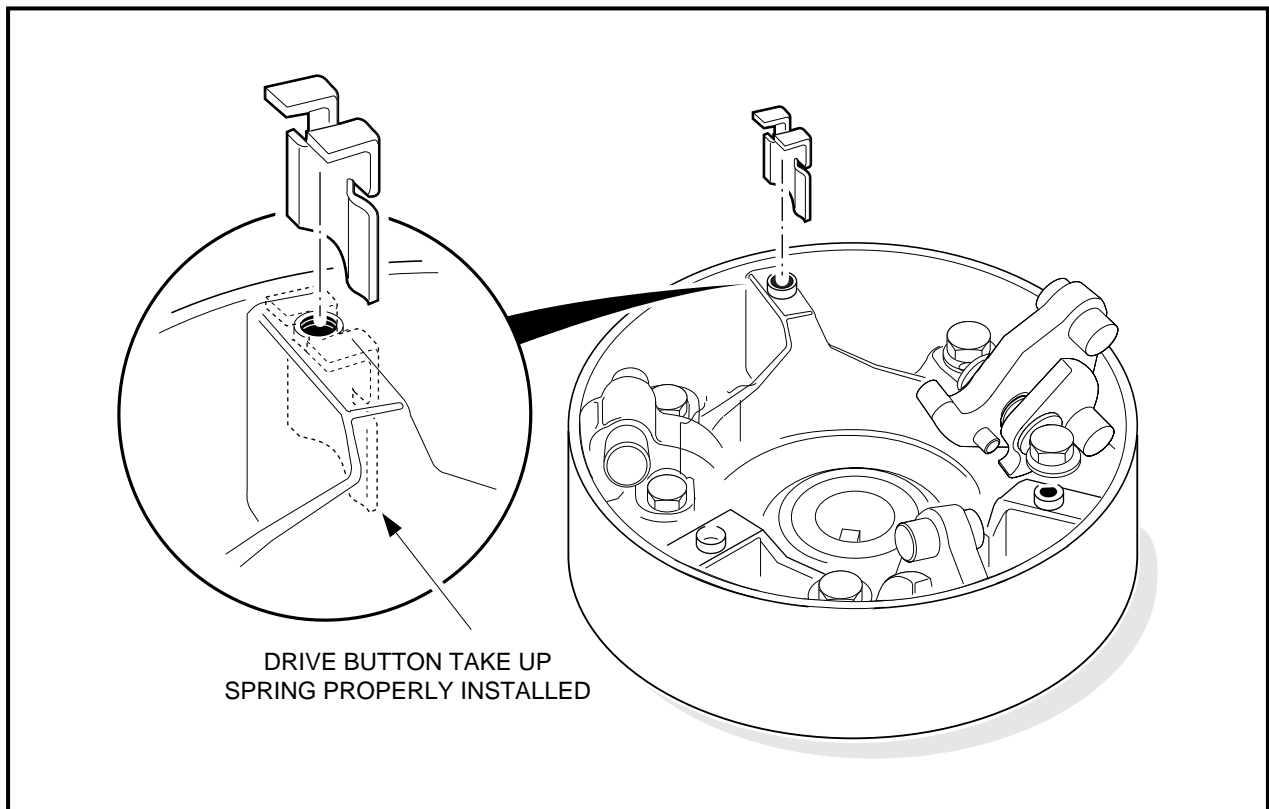

Figure 17-15 Correct Orientation of Drive Button Take-up Spring
- 13.1. Install spring on **right** side of any one of the three button mounting posts (when looking into the interior of the clutch cover with the rib at the twelve o'clock position) as shown (**Figure 17-15, Page 17-11**).